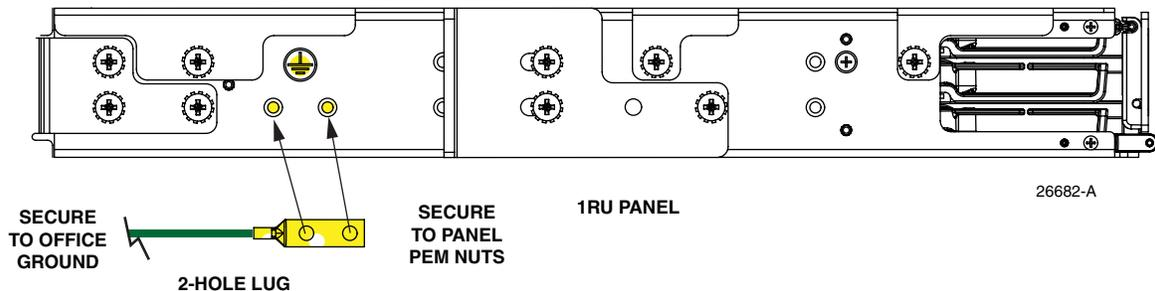

Figure 17. EHD Panel Grounding
2. Using AWG 14 (1.6mm) solid copper wire, secure a crimp lug to one end of the ground wire (installer provided). Secure the crimp lug to the panel with two M4 screws. Torque screws to approximately 15 pound-inches (1.7 Newton meters). Refer to Figure 17.